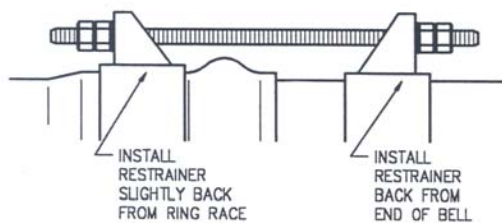

FIGURE 1
2. Assemble one set of restrainer rings on Spigot end of pipe, back from lip of bell. (Make certain the hollow side of the restrainer ears face toward the Bell, or center of the joint.) See Figure 1 below.